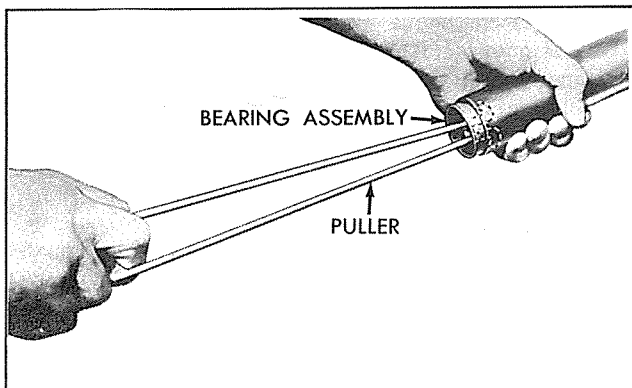

Figure 6—Removing Upper Jacket
1. Remove nuts and lock washers from studs which attach steering column assembly (4) to bevel gear housing (9) then remove column assembly.
2. Remove upper bearing (3) from steering column assembly (4), using tool No. J-489 as shown in figure 6.
3. Remove bearing adjusting nut (5), adjusting nut lock (6), and upper gear bearing (7) from steering shaft, then pull steering shaft and upper bevel gear (8) out of bevel gear housing (9).
4. Remove cotter pin and lower gear nut (15) from lower bevel gear (11), then remove splined yoke (16) from lower bevel gear.
5. Remove nuts and lock washers from bevel gear housing studs, then remove bearing cap (14) and gasket. Press lower gear oil seal (13) out of bearing cap.
6. Using suitable tool, remove lower gear bearing (12) from gear housing, then remove lower bevel gear (11). Remove all old adjusting shims (16) from housing.